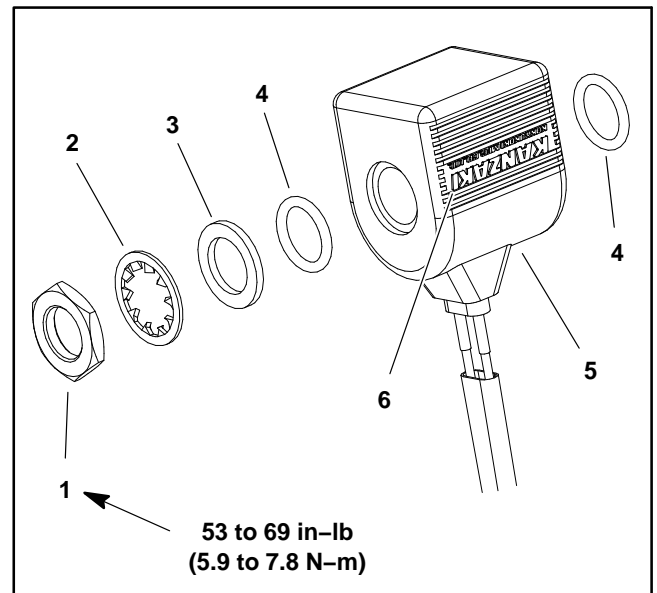

Figure 80
5. Slide the coil assembly from the solenoid valve stem (Fig. 80). For assembly purposes, note that “KANZAKI” molded into the coil has the “I” nearest the nut location as coil direction is important for proper solenoid operation.
1. Slide new coil assembly, seals and washers onto the solenoid valve stem. Make sure to properly position seals and washers (Fig. 80). Coil should be installed so the “KANZAKI” molded into the coil has the “I” nearest the nut location.